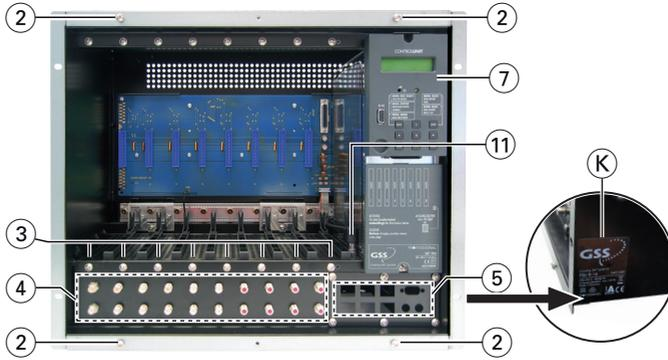
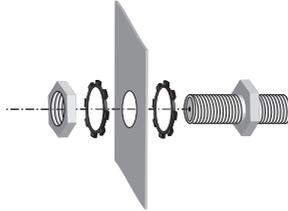

Fig. 2
Fig. 8
- According to figure 8 insert the required number of standard cable terminals in the openings provided in the front of the head-end station (fig. 2 ⑤, page 10).